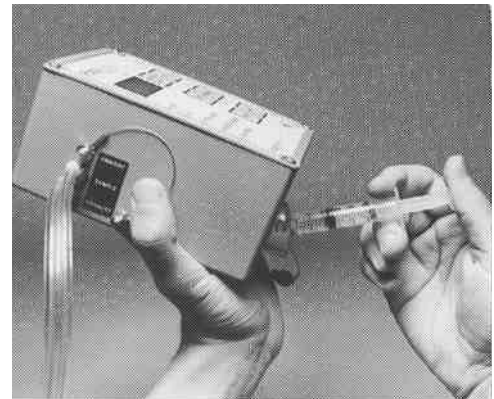

Figure I-13. Injecting the alcohol
- Step 5.** While observing the alcohol fill indicator, gently and slowly inject alcohol into the PORTACOUNT. *Stop filling the moment the indicator turns dark.* This may happen before the syringe is empty. Observe the following precautions while filling (fig. I-13):